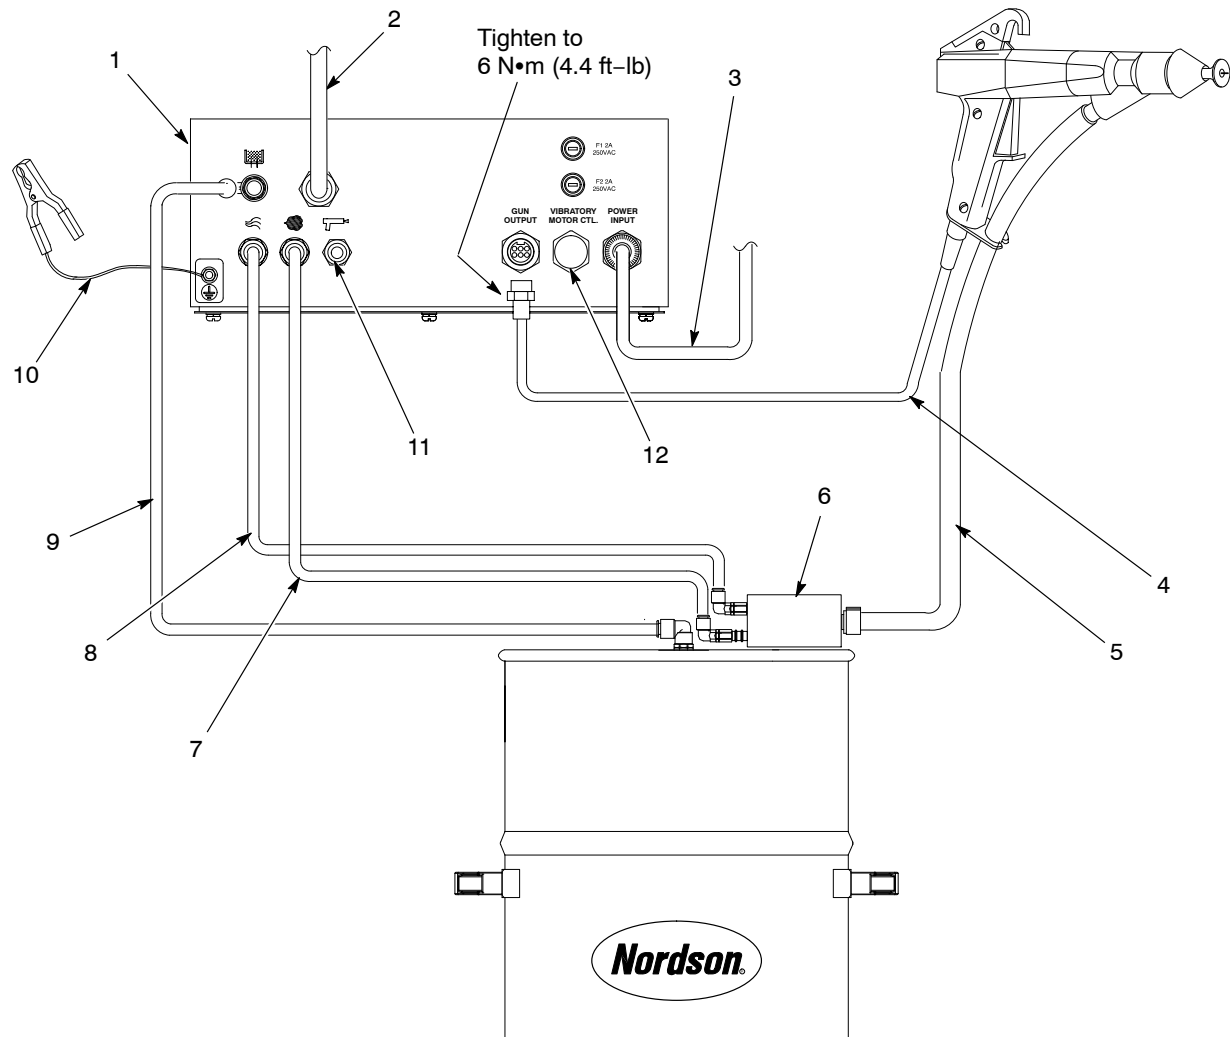

Figure 3-1 Feed Hose, Air Tubing, and Cable Connections
1. See Figure 3-1. Connect the feed hose (1) from the powder pump (2) outlet to the hose adapter on the underside of the powder inlet body. Pinch the hose and snap it into the hose bracket at the base of the gun handle.
3. Connect the gun cable (8) to the GUN OUTPUT receptacle at the rear of the control unit (9). Secure the cable to the control unit with the retaining nut on the cable end.